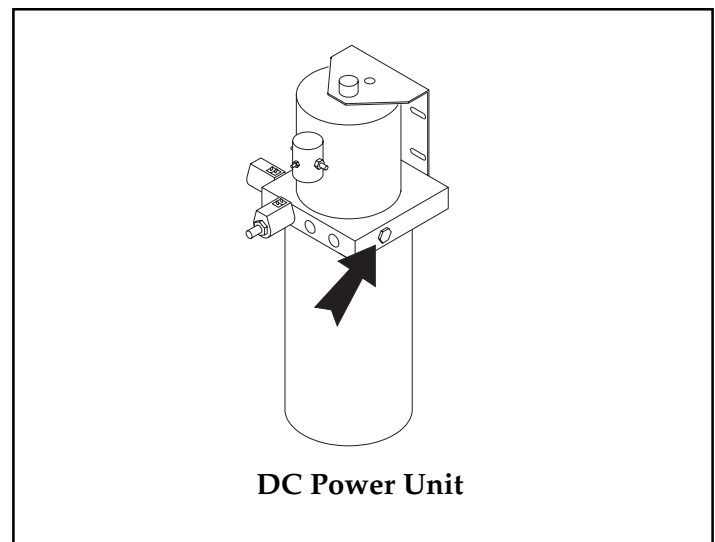

Figure 3-4: System Relief Valve
3.4 Setting System Relief Valve (Figure 3-4)
3. Remove the cap from the System Relief Valve (fig. 3-4), and turn the adjustment screw counter-clockwise two full turns.
5. Turn the System Relief Valve Clockwise (fig. 3-4) until the machine begins to rise.